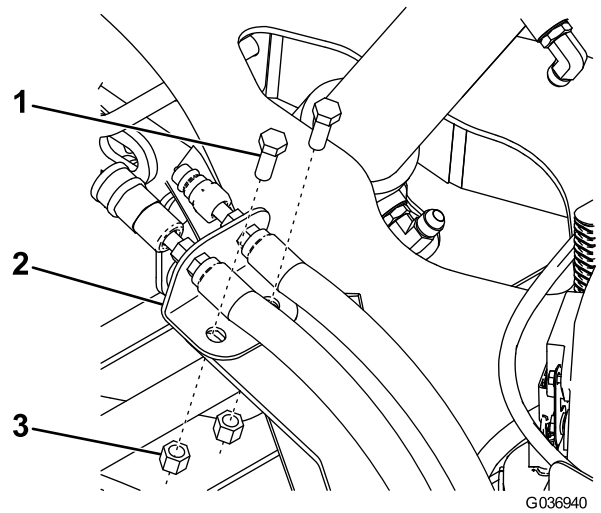

Figure 9
3. Attach the bulkhead bracket to the A-frame using 2 hex-head bolts (3/8 inch) and 2 nylon locknuts (3/8 inch) as shown in Figure 9, and torque the bolts to 40 N·m (30 ft-lb).
4. Tighten the fittings securing the quick disconnects to the mounting bracket (Figure 9).